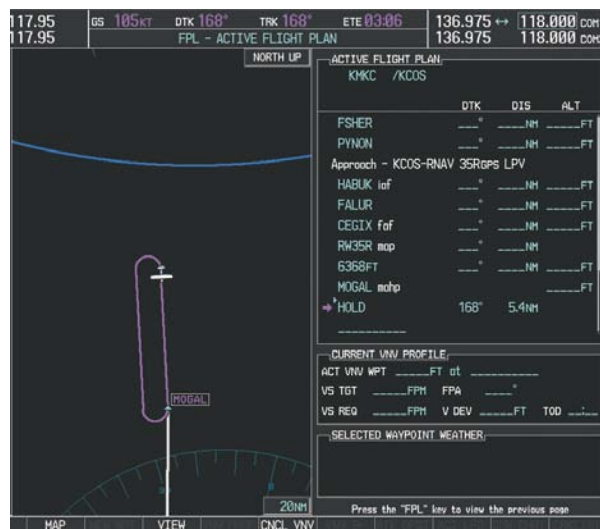

Figure 7-51 Hold Established
27) The aircraft maintains 10,000 feet while following the magenta line through the hold as in Figure 7-51.